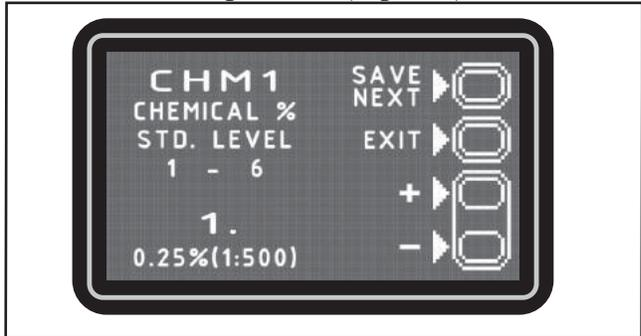

Figure 5
2. Press the One-Touch button  to continue to the machine settings screen (Figure 5).